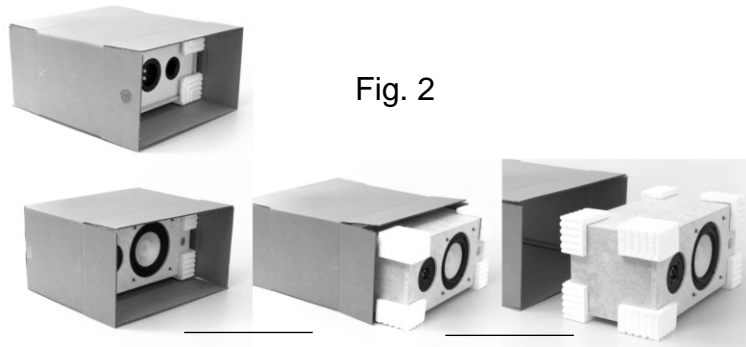

Fig. 2
- Now that all loose components and parts are removed, place boxes on their side on a solid non-scratch surface, open bottom flaps of boxes, and, from the front or rear, carefully push cabinet until completely free of box. Cabinet should be resting on four (4) foam corners. Refer to *Fig. 2* below for safe removal of each speaker/cabinet.